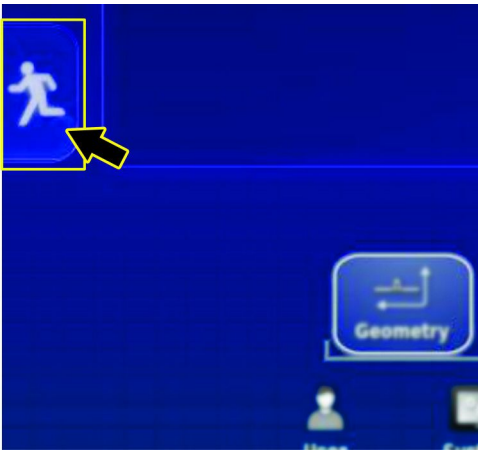

Figure 196
3. Press the EXIT SETUP icon (Figure 196).